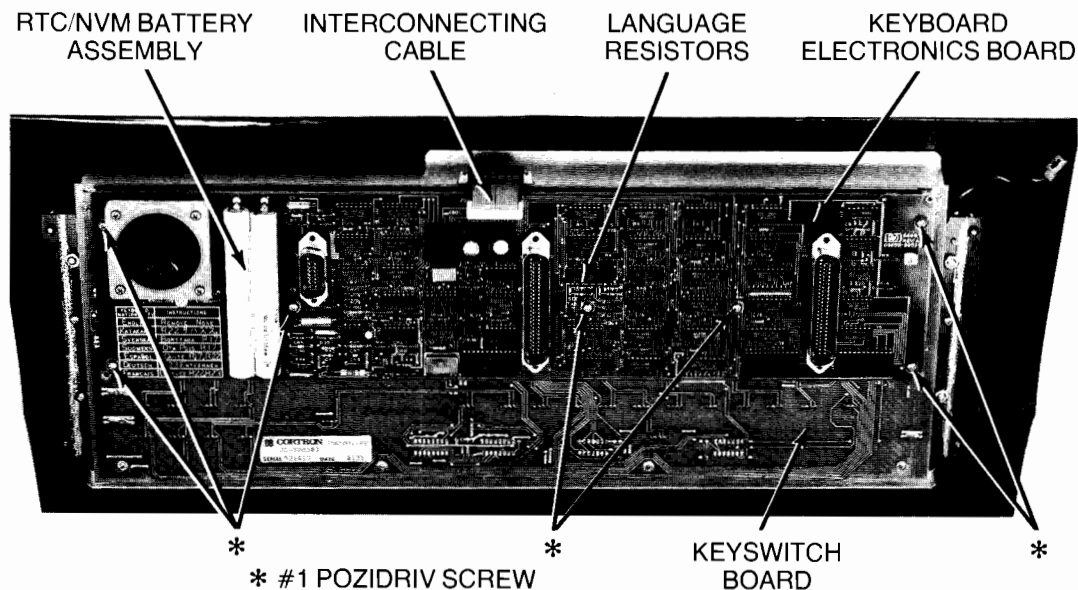

Figure 4-33. Disassembling Keyboard
3. Place keyboard upside down (keycaps down) on an antistatic surface (Figure 4-33).
4. Unplug keyboard electronics board cable from keyswitch board (Figure 4-33).
5. Remove seven #1 Pozidriv screws that interconnect keyswitch board and keyboard electronics board (Figure 4-33).
3. Place keyboard upside down on an antistatic surface (Figure 4-33).
4. Determine current configuration by noting the resistors in place on the keyboard electronics board (Figure 4-33). Determine desired configuration according to Table 4-1. A "1" indicates a resistor is installed at that location; a "0" indicates there should be no resistor there. Add and/or remove resistor(s) to match the desired configuration. Resistor part number is 0698-3441.
4. Cut battery connections and remove batteries (Figure 4-33).